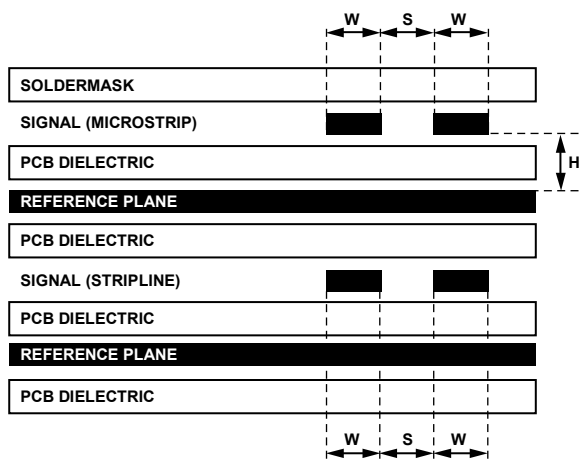

Figure 45. Example of a PCB Cross-Section
The high speed differential inputs and outputs should be routed with 100  $\Omega$  controlled impedance, differential transmission lines. The transmission lines, either microstrip or stripline, should be referenced to a solid low impedance reference plane. An example of a PCB cross-section is shown in Figure 45. The trace width (W), differential spacing (S), height above reference plane (H), and dielectric constant of the PCB material determine the characteristic impedance. Adjacent channels should be kept apart by a distance greater than 3 W to minimize crosstalk.